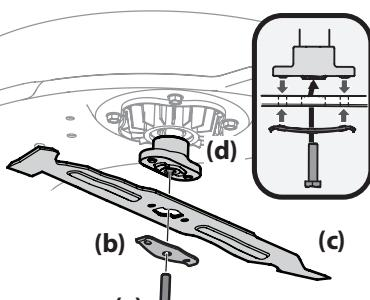

Figure 27
- Remove the hex screw (a) and the blade bell support (b) which holds the blade (c) and the blade adapter (d) to the deck motor. See Figure 27.
- Remove blade (c) and adapter (d) from the deck motor spindle. See Figure 27.